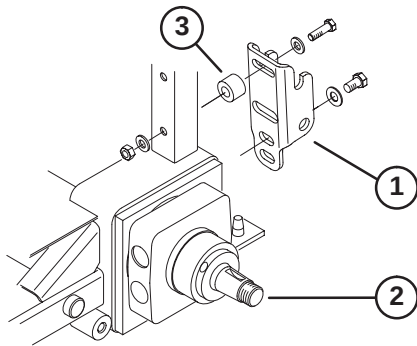

Figure 7
- On Sand Pro 5000/5020 – Mount top of receiver bracket to frame with a 3/8–16 x 1.25” lg. capscREW, (2) .40 I.D. x .81 O.D. flat washers, .625” lg. spacer and locknut. Mount bottom of receiver bracket to frame with a 1/2–13 x .875” lg. capscREW and (2) .56 I.D. x 1.063 O.D. flat washers. Position components as shown in figure 7.